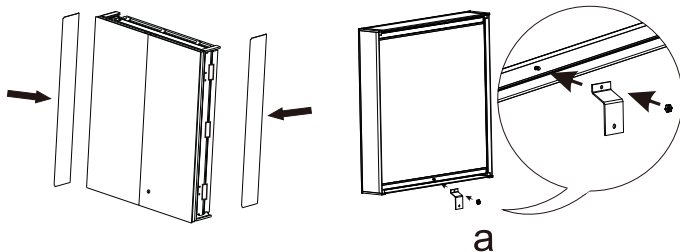

Fig.4
2.2 Insert the surrounding aluminum plate into the cabinet bracket(Fig.4)
To use the hexagon nut to fix the bottom frame fastener on the frame(Fig.4-a)